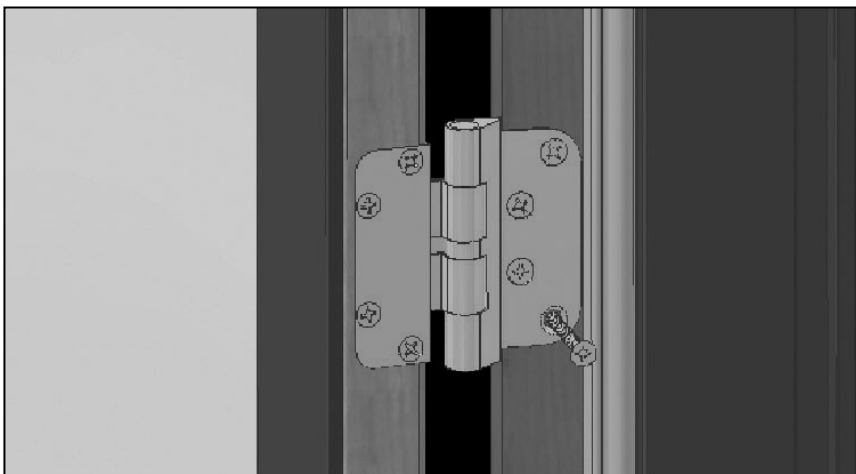

FIG. 14
- L) Apply the supplied #10 x 2-1/4" screws through each hinge, securing the hinges and frame to the rough opening. Additional shims are required behind each hinge. (Fig. 14)